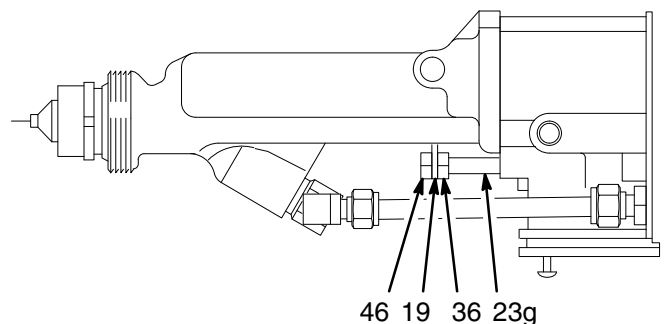

Fig. 25
3. Remove the jam nut (46) and actuator arm (19). See Fig. 25 on page 33.
3. Remove the jam nut (46), actuator arm (19), and adjustment nut (36). See Fig. 25.
- a. Install the adjustment nut (36), actuator arm (19), and jam nut (46) onto the piston rod (23g). See Fig. 25 on page 33.